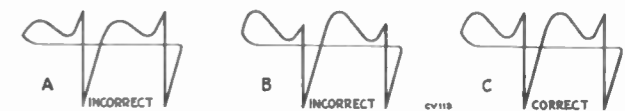

Figure 17—Horizontal Oscillator Waveforms
A.—Connect the low capacity probe of an oscilloscope to terminal C of T107. Turn the horizontal hold control one-quarter turn from the clockwise position so that the picture is in sync. The pattern on the oscilloscope should be as shown in Figure 17. Adjust the Oscillator Waveform Adjustment Core of T107 until the two peaks are at the same height. During this adjustment, the picture must be kept in sync by readjusting the hold control if necessary.